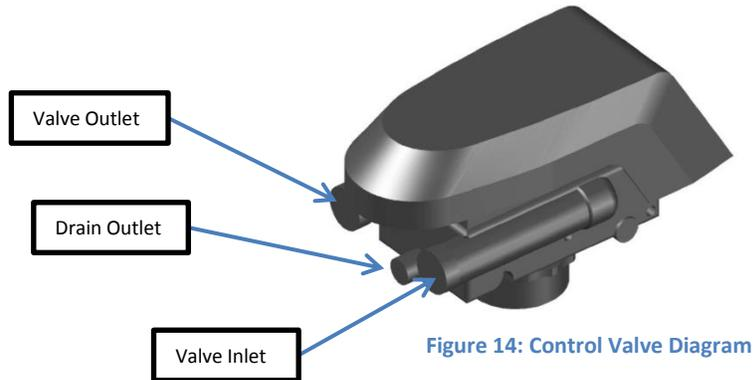

Figure 14: Control Valve Diagram
- B. Pipe or tube a line from the Control Valve Drain (Figure 14) to the drain.